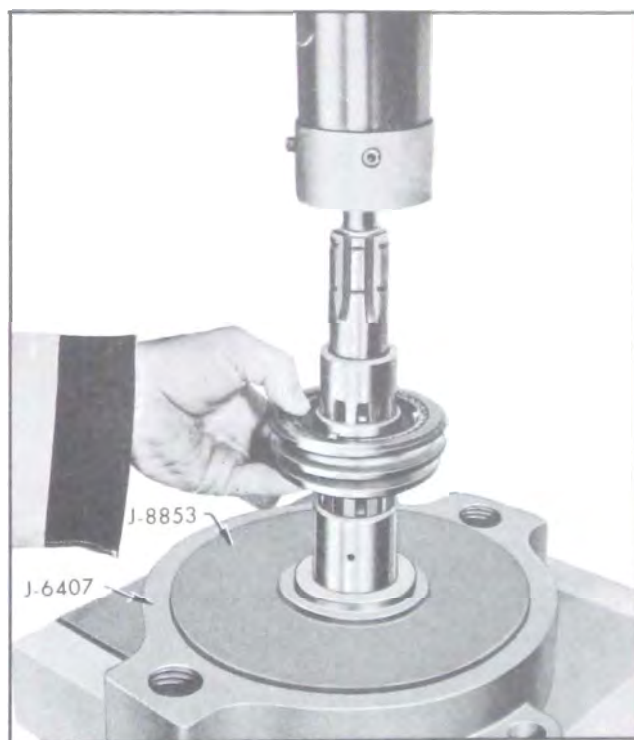

Figure 4-57—Installing First Speed Gear Bushing Using J-8853
1. From rear of mainshaft, assemble first and second speed clutch assembly to mainshaft (sliding clutch sleeve taper toward the rear, (hub to the front) and, using J-8853, press the first gear bushing on shaft. See fig. 4-57.